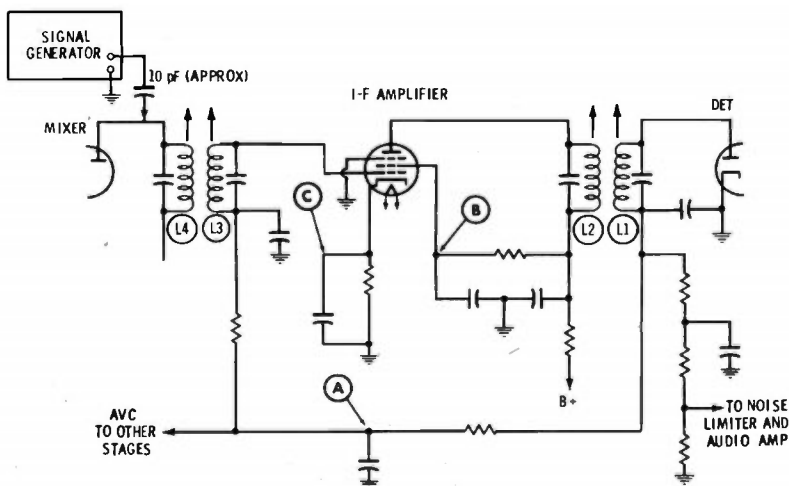

Fig. 5-22. Signal-level monitoring points in typical receiver.
3. Connect the hot output lead of an rf signal generator to the plate of the mixer tube (or collector of the mixer transistor) through a small capacitor, about 10-pF capacitance (Fig. 5-22), and connect the ground lead to the set chassis.
While the use of an ac voltmeter to monitor audio-output voltage when aligning a receiver is easy, you can monitor avc voltage or the effects of avc voltage instead. You can connect a dc vtm to point A in Fig. 5-22 to monitor avc voltage directly. This voltage will be negative with respect to ground, and an improvement in alignment will be indicated by an *increase* in avc voltage.
You can also connect a dc voltmeter to point B in Fig. 5-22, the screen grid of the i-f amplifier. This voltage will be positive with respect to ground, and an improvement in alignment will be indicated by an *increase* in screen voltage. A dc voltmeter connected to point C, the cathode of the i-f amplifier, will be positive with respect to ground, and an improvement in alignment will be indicated by a *decrease* in cathode voltage.